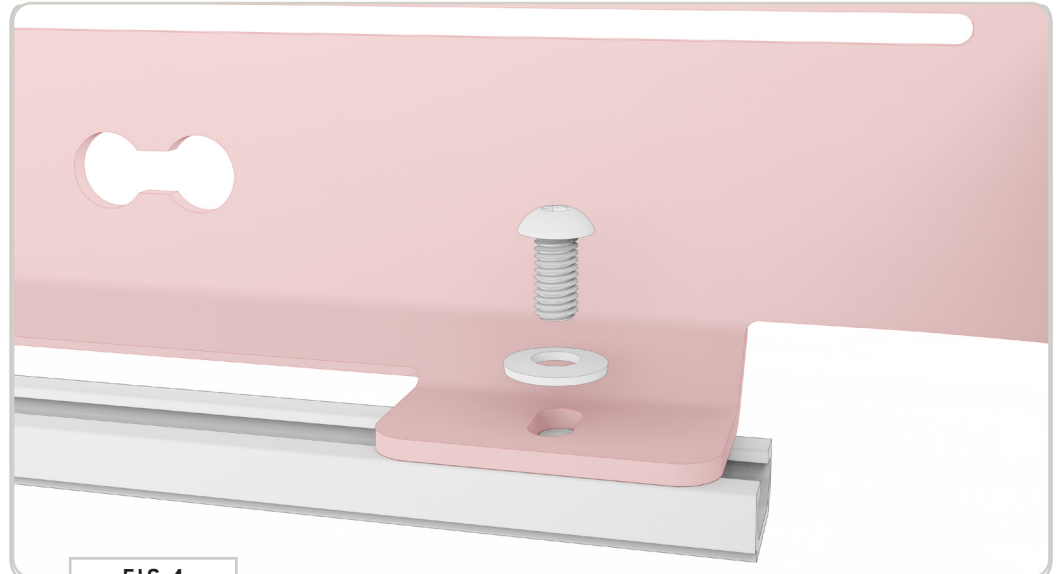
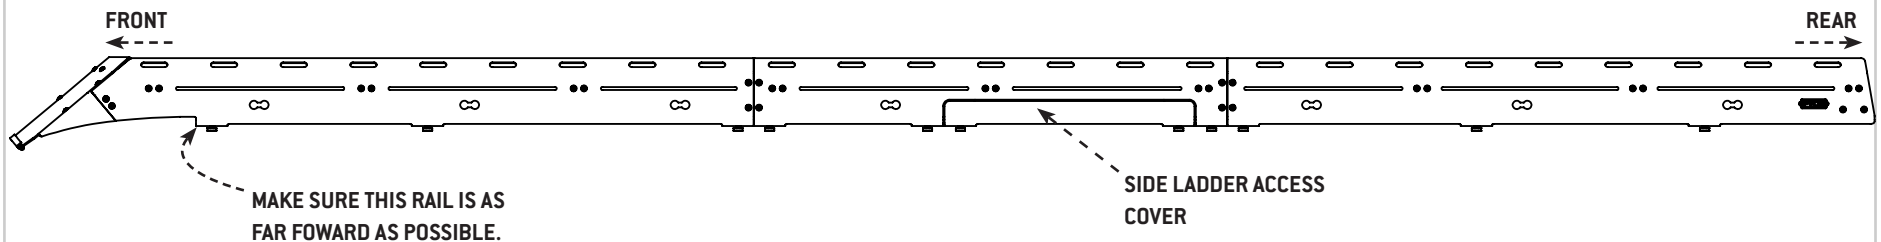

FIG 4
FIG 5
**2.1 Install Side Rails:** Beginning with the forward section of the rack (see FIG 5 for layout), start loosely attaching the side rails to the roof rails using the **3/8-16" Button Head Screws & 3/8" Lock Washers**, but do not tighten them all the way down yet (FIG 4). If you are not installing a **Side Ladder** at this time, install the **Side Ladder Access Cover** in the location shown in FIG 5.